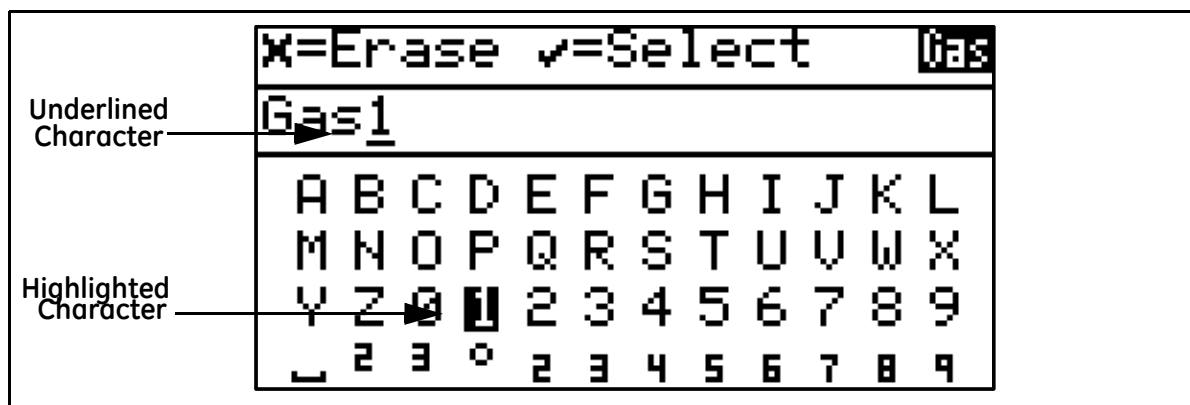

Figure 44: Alphanumeric Menu with Keyboard Highlighted
- Pressing the **Down** arrow will move the highlight to the **Keyboard** section (see *Figure 44* below):